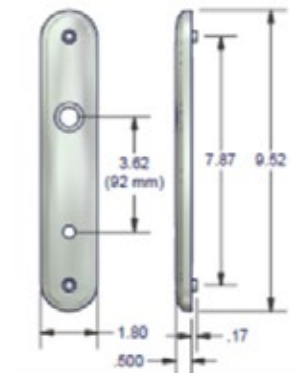

Figure 14
- Note:** Escutcheon plate dimensions shown in Figure 14 can be used to source alternate hardware.